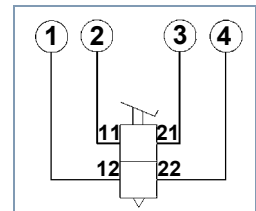

Fig. 3 Test bench ports
- Connect device to test bench ports (see fig. 3).